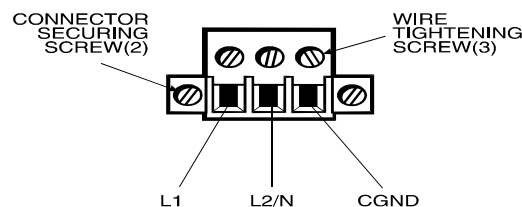

Figure 2-7. AC Power Connector
4. Insert the three wire ends of the power cable into the three holes of the block plug. Insert the Protective Earth GND ground, L1, and L2/N wires into the corresponding holes, as shown in Figure 2-7. Be sure that no bare wires are exposed.